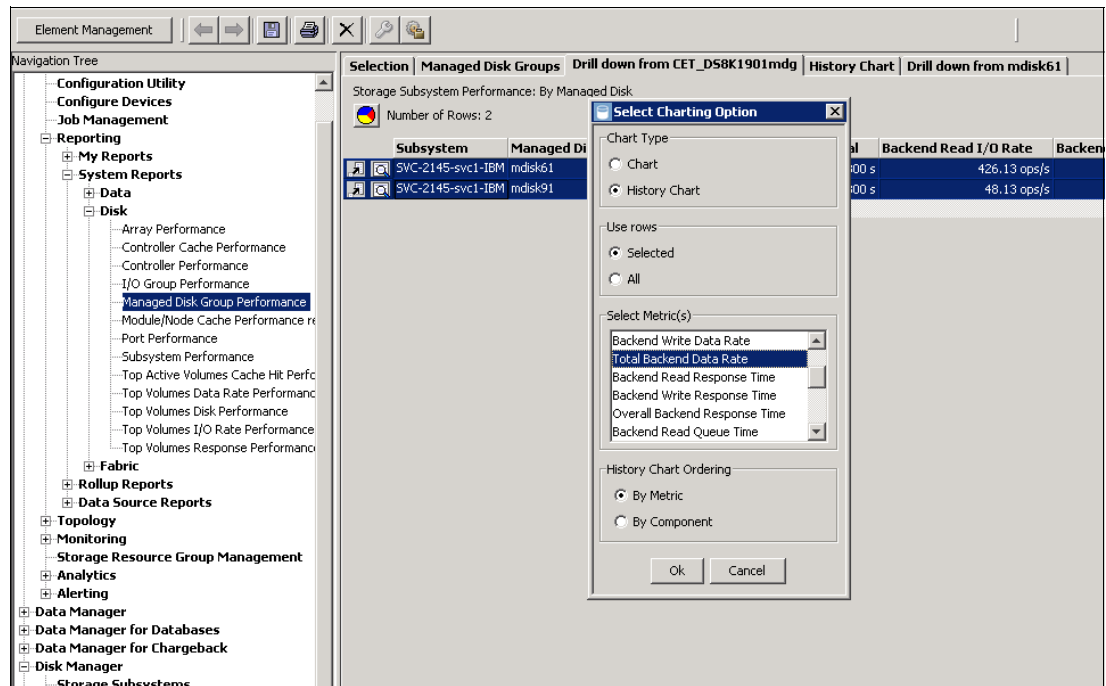

Figure 13-66 MDisk Backend Data Rates selection
2. In the Select Charting Option window (as shown in Figure 13-66 on page 418), select the **Backend Data Rates**. Then, click **OK**.